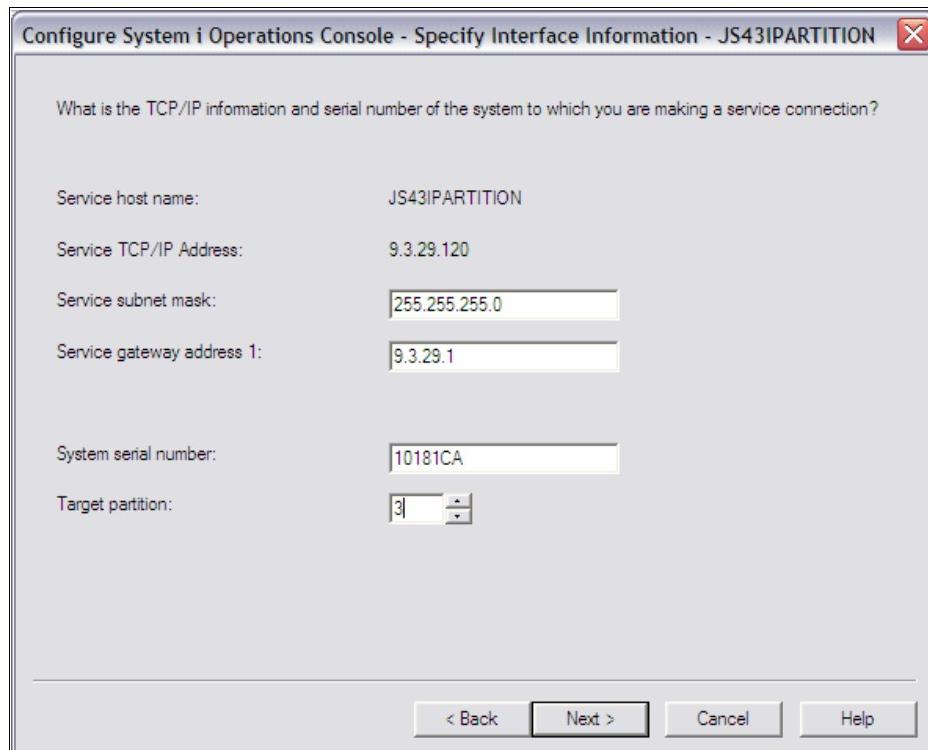

Figure 7-43 IBM System i Operations Console - enter System serial number
8. Modify the required fields to the actual implementation. In our hardware scenario a gateway was implemented. Two important fields are System serial number and Target partition, as shown in Figure 7-43 on page 289.